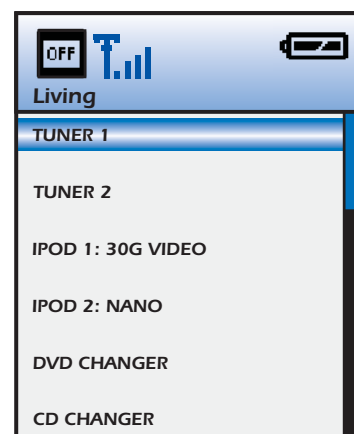

Figure 45
6. The **MODE Free Main Menu** as configured for the selected zone will open as shown in Figure 45. The MODE Free is ready for normal operation as described in Section: **Operating MODE**.